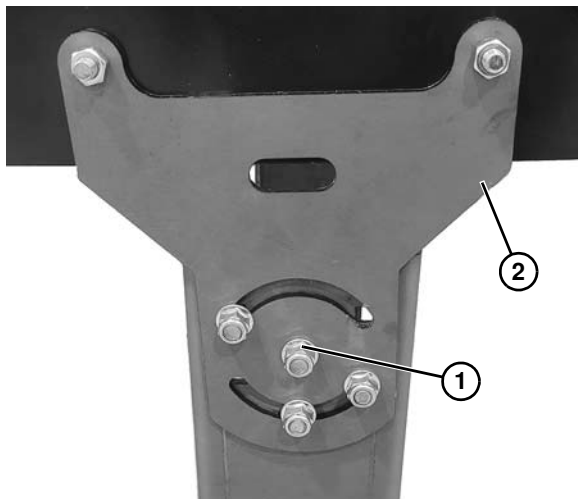
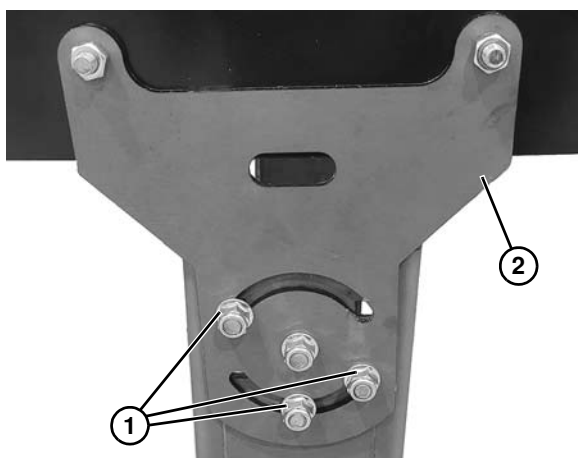

Figure 12
Figure 13
1. To adjust conveyor angle, loosen center nut (**Figure 12, item 1**) on bracket (**Figure 12, item 2**) on both sides of stand.
2. Loosen three nuts (**Figure 13, item 1**), and adjust conveyor along with bracket (**Figure 13, item 2**) on both sides of stand.
Failure to secure nuts (**Figure 12, item 1**) and (**Figure 13, item 1**) may cause conveyor sections to drop down causing severe injury. **TIGHTEN NUTS (Figure 12, item 1) AND (Figure 13, item 1) AFTER ADJUSTMENT.**
3. When correct angle is reached, tighten three nuts (**Figure 13, item 1**) and center nut (**Figure 12, item 1**) on both sides of stand.